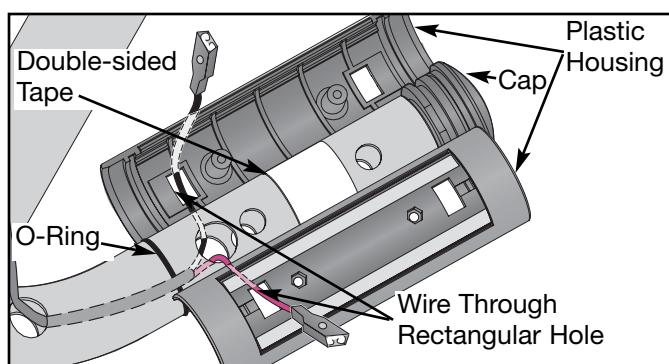

Figure 26
- Pull the plastic housing and cap off each handrail (the housing is secured with double-sided tape). See Figure 26.
- Gently push each connector out of the rectangular hole in the plastic housing. See Figure 26.
- Remove the old o-ring from each handrail. See Figure 26.